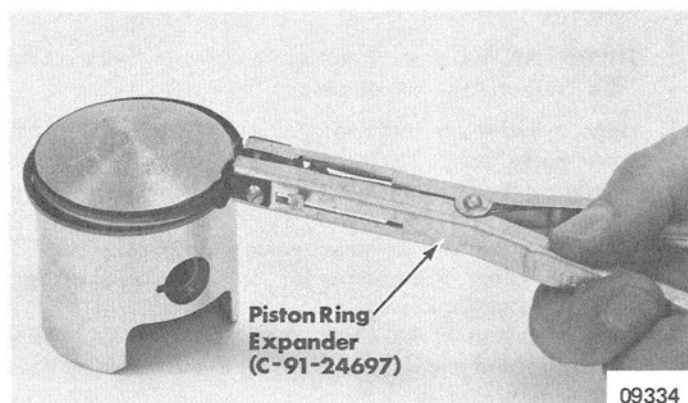

Figure 12. Piston Ring Replacement
6. Use Piston Ring Expander (C-91-24697) to remove piston rings from each piston. (Figure 12)